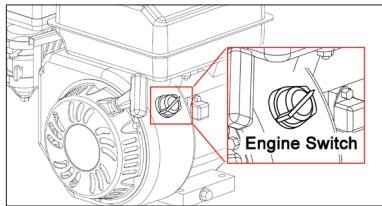

Fig 1. Engine Switch
4. Make sure the engine switch is on the ON position (Fig 1).